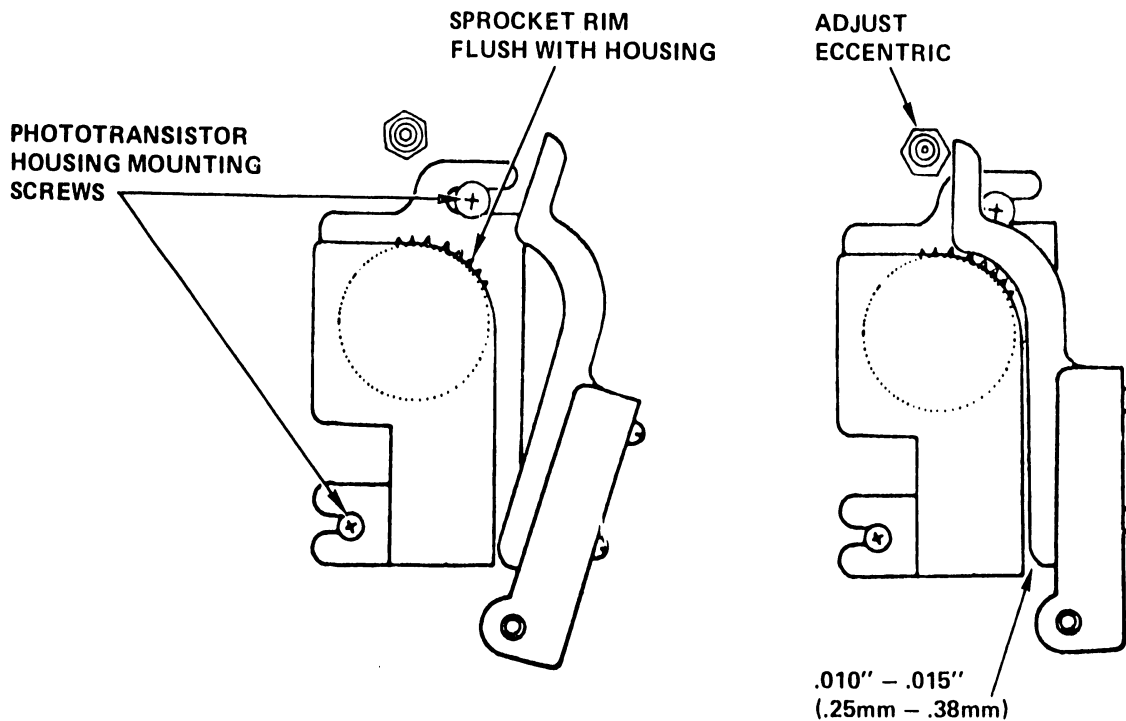

Figure 5-55. VFU Adjustments
2. Check for a uniform clearance, with the cover assembly closed, between the phototransistor housing and cover. The clearance should measure .010" to .015" (.25 mm to .38 mm). See Figure 5-55.
2. Adjust the cover stop eccentric (see Figure 5-55) to obtain a gap of .010" to .015" (.25 mm - .38 mm) between the cover and phototransistor housing.